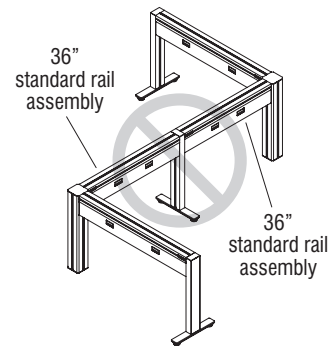

**Figure 10**
- Standard beam sizes are nominal in 6" increments from 24" to 84". Standard rail legs add 2" per leg to the length of the beam or 4" in total for the overall length of the complete rail assembly. Example: 42" wide beam with two standard rail end legs = 46" rail assembly (Figure 10).